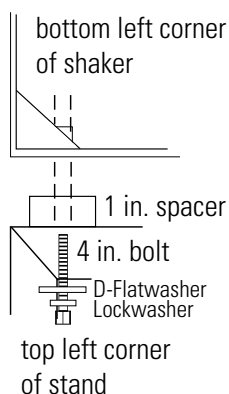

Figure 1-13. Shaker To Stand
5. Carefully lift and position the unit over the spacers on the stand. Align the (4) connection point holes in the bottom of the unit with the (4) spacers and holes in the stand. (Helpful hint: Use masking tape around outside edge of spacers to hold in place during installation. Remove tape after installation.)
6. Assemble the lockwashers, then the D-shaped flatwashers onto the ½"-13 x 4" bolts. Then thread the bolts through the underside of the stand top rails, through the spacers and into the holes in the bottom of the unit. Tighten these bolts to secure the shaker to the stand. Refer to Figure 1-13 and 1-14.